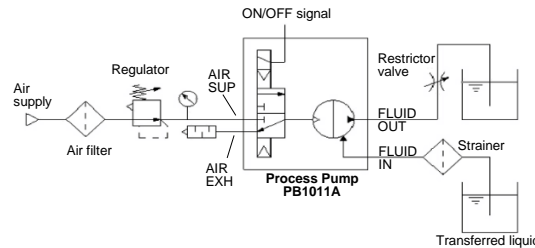

Fig 3. Circuit Example
- 1) Connect air piping to air supply port “AIR SUP”, and fluid transfer piping to suction port “FLUID IN” and discharge port “FLUID OUT”. See Fig. 3.
1. The flow rate from the discharge port <FLUID OUT> can be adjusted easily by changing the switching cycle of the solenoid valve on the air supply port. See figure 3.